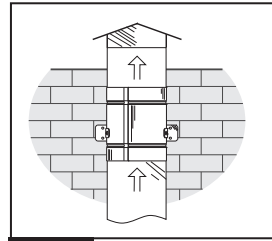

Fig. 13
1. Install an outer hood above in case of vertical mounting position, fig. 13.